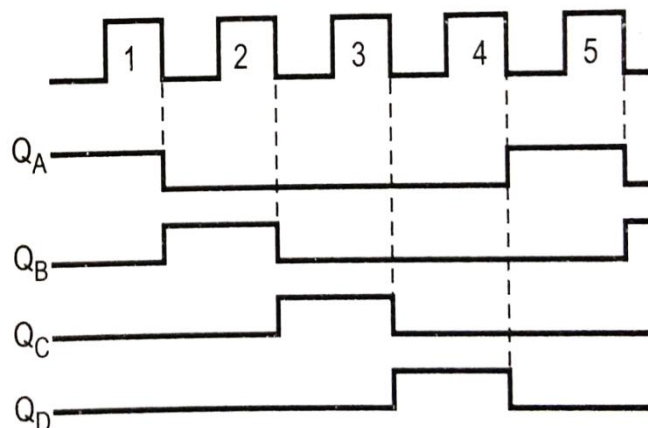

Figure 3.39: Timing sequence for a four-bit ring counter.
- Figure 3.39 gives the timing sequence for a four-bit ring counter.